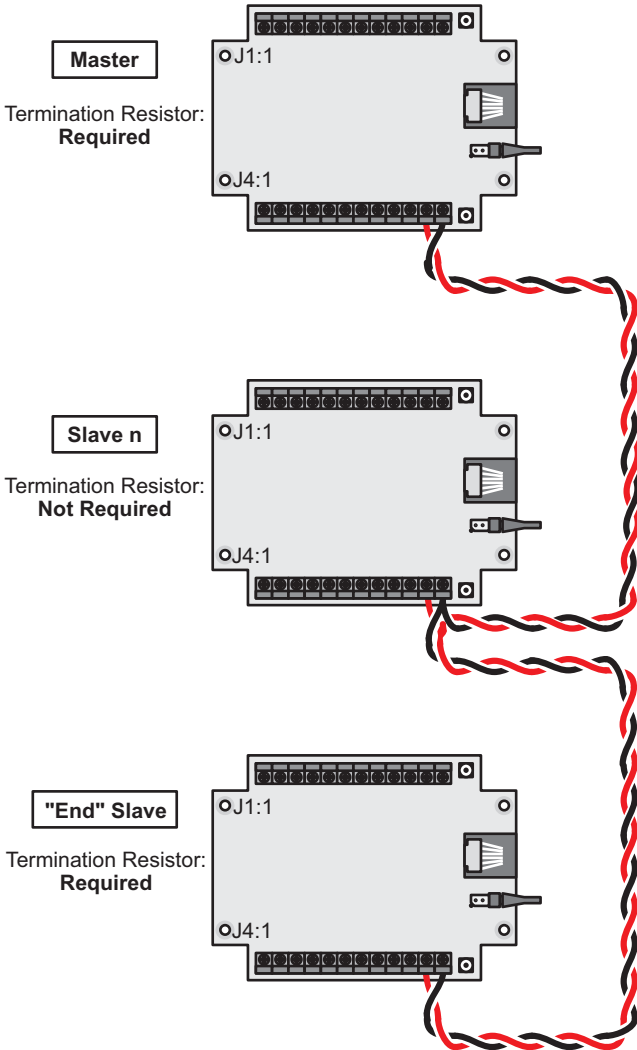

Figure 4-6. Multidrop Network
The resulting multidrop network, shown in Figure 4-6, can span over a kilometer, facilitating the design of a robust distributive control system.
2. On all networked controllers, connect RS-485+ to RS-485+ and RS-485- to RS-485- using nonstranded, tinned, single twisted-pair wires. Refer to Figure 4-6.